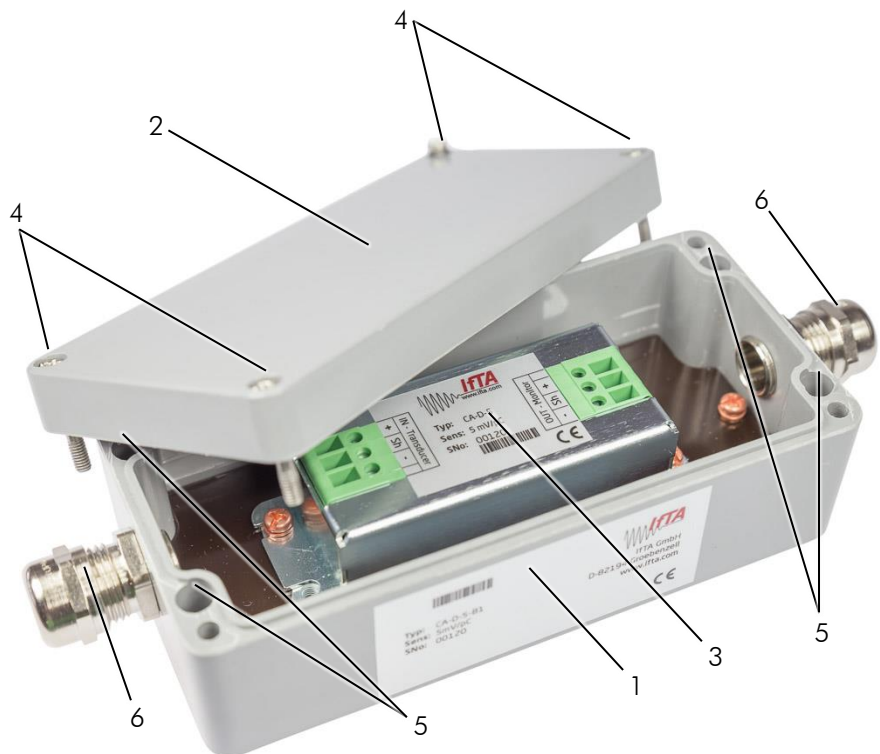

Figure 4: Layout of the industrial housing (figure similar, subject to modification)
- (1) Choose a vibration-free place for the mounting.
- (2) Remove the cover of the industrial housing by unscrewing the four cover screws (see **Figure 4**).
- (3) Use the four fixing points (see **Figure 4**) to mount the housing on a suitable surface.
- (4) Continue with the steps described in the chapter below.
- (1) Loosen the stuffing glands (see **Figure 4**).
- (2) Pass the cables through the stuffing glands into the designated position.
- (3) Tighten the stuffing glands and verify that the cables are securely fastened by the stuffing glands to ensure a proper sealing.
- (4) Continue with the next chapter to connect cables to the charge amplifier.